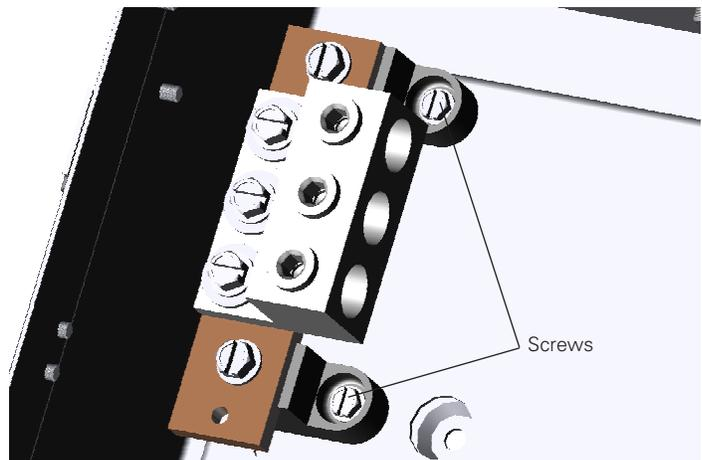

Figure 23. Replacing the 200 A Neutral Bar.
- Step 4: Remove the screws in the black base using a blade screwdriver or 0.25 in. socket or nut driver. Remove the neutral bar (see Figure 23)